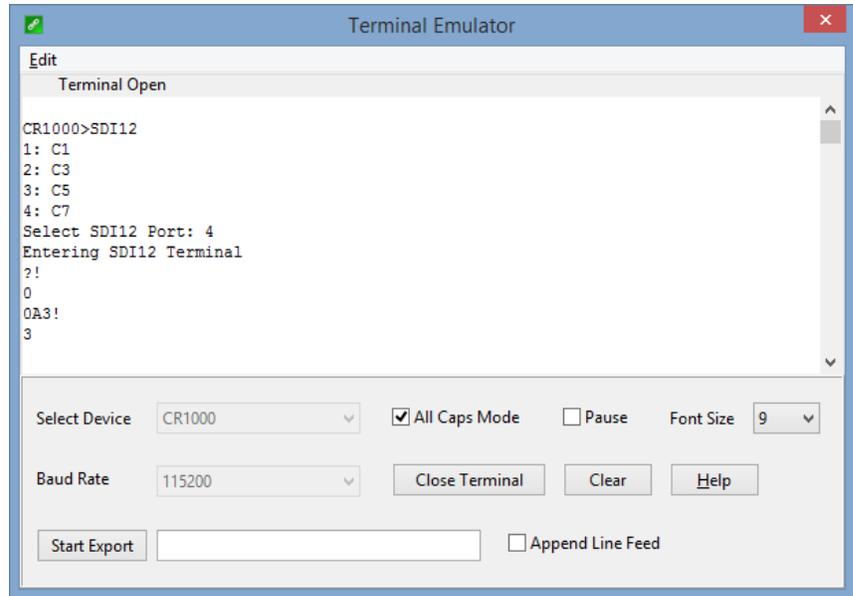

FIGURE C-4. CR1000 example of using the SDI-12 transparent mode to change the SDI-12 address from 0 to 3. Sensor is connected to control port 1.
10. To change the SDI-12 address, type **aAb!**, where *a* is the current address from the above step and *b* is the new address (see FIGURE C-4). Press
C.6.3.2 Changing an SDI-12 Address – CR200(X) Series
10. To change the SDI-12 address, type **aAb!**, where *a* is the current address from the above step and *b* is the new address (see FIGURE C-4). Press Enter. The sensor will change its address and respond with the new address.